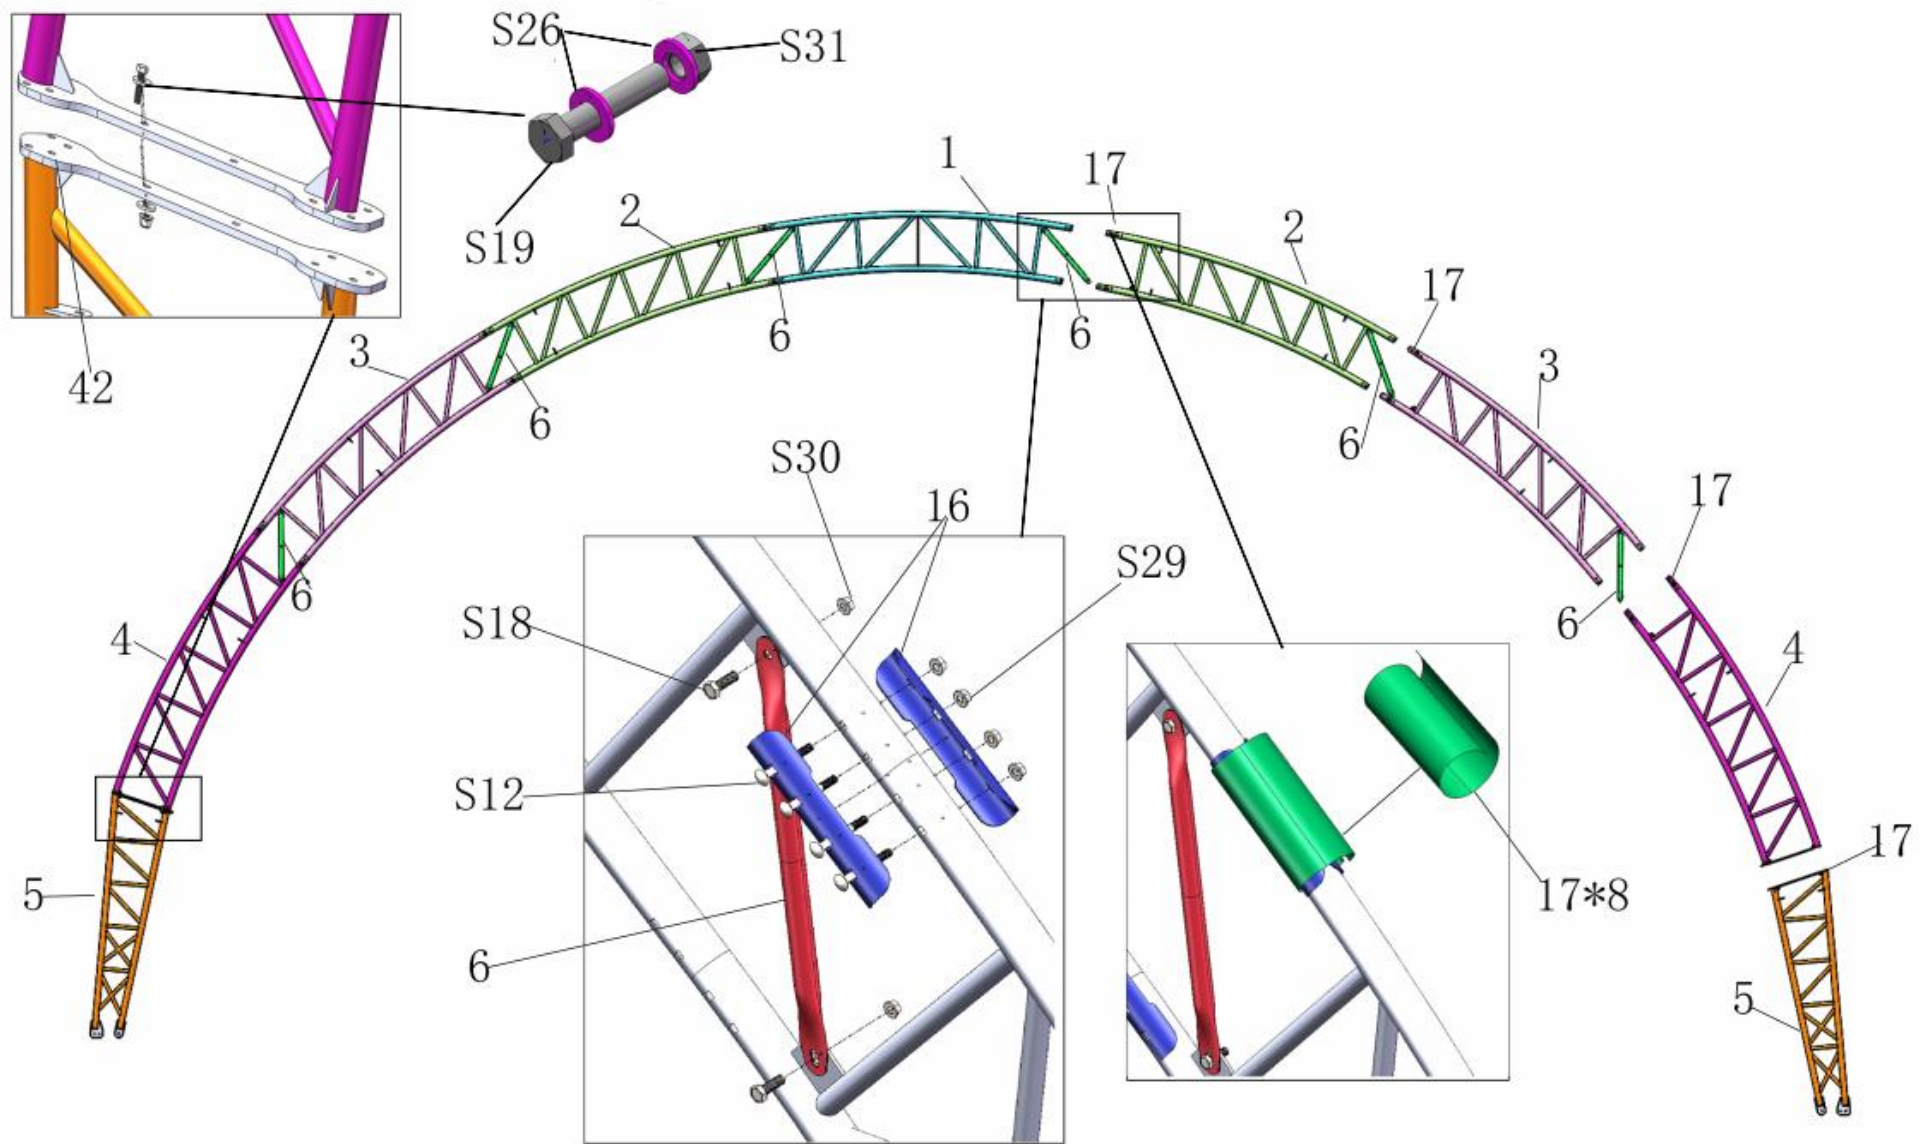

Figure 3
2. As Figure 3 shown to find one Top roof tube (No.1), two Roof upper curving tube (No. 2), two Roof middle curving tube at shoulder (No. 3) ,two
3. As figure 3 shown, use the Supporting Tube between the arch(No.6) to connect the Top roof tube (No.1) with hexagon bolt 10*30mm (No. S18). Then put the PVC protective cover on the outer of connection of the arch to protect the roof cover from scratched by the outer joint. Assemble the rest of the other group double truss arch like this.